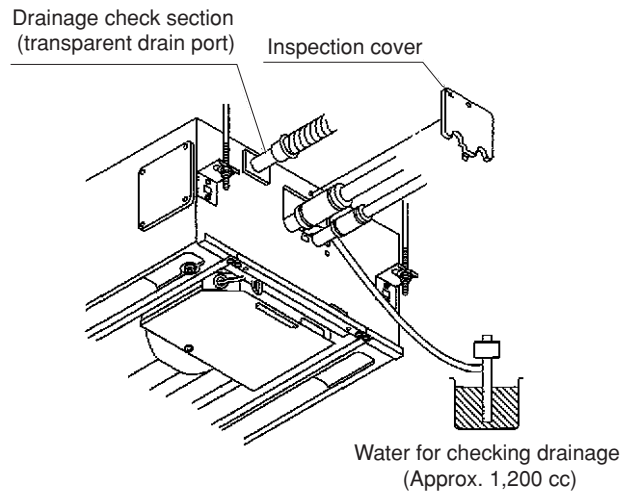

Fig. 3-31
- (4) When the check of drainage is complete, open the check pin (CHK) and remount the tube cover. (Fig. 3-31)